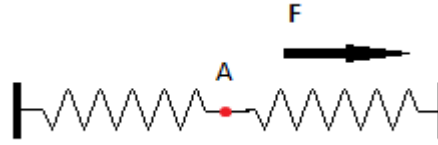

Figure 4: Springs in series
- 2) Let us start by analysing what happens when the insole experiences a shear force F along its longitudinal axis. The effect of this force on the two springs attached to plate 1 in Fig. 1 is shown in Fig. 4 below (where the plate, being a rigid object, has been removed for clarity).